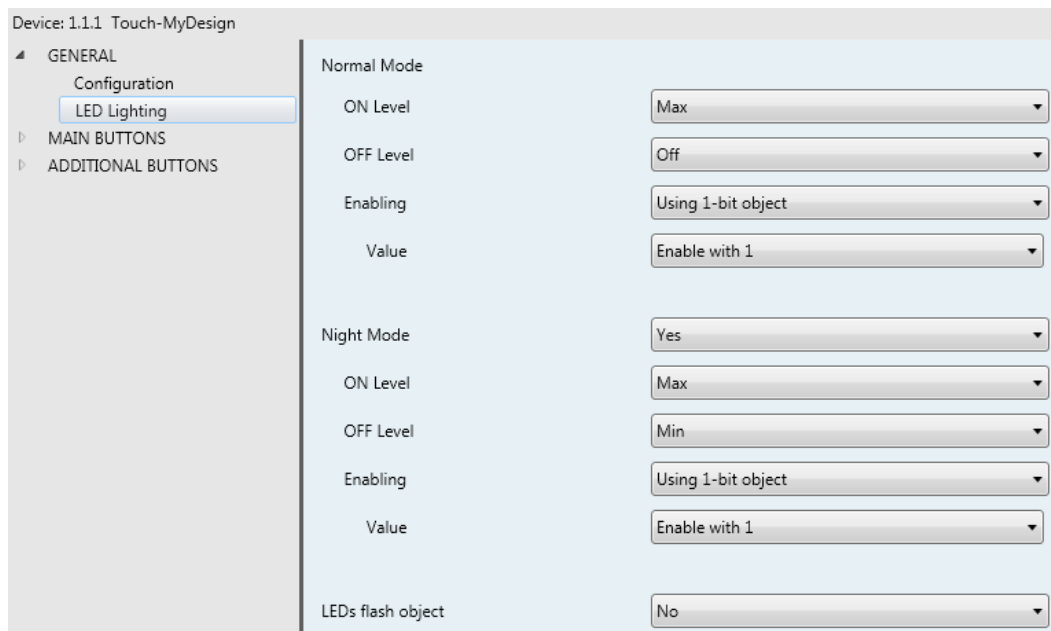

Figure 8 Lighting (Night Mode and Flash Object enabled)
**Custom:** permits the definition of custom light levels for the “on” and “off” states of the LEDs, as well as enabling complementary functionalities, like the night mode or the LED flashing object. For that purpose, after selecting this option a new screen will come up (**LED lighting**; see Figure 8), where the following parameters can be found: